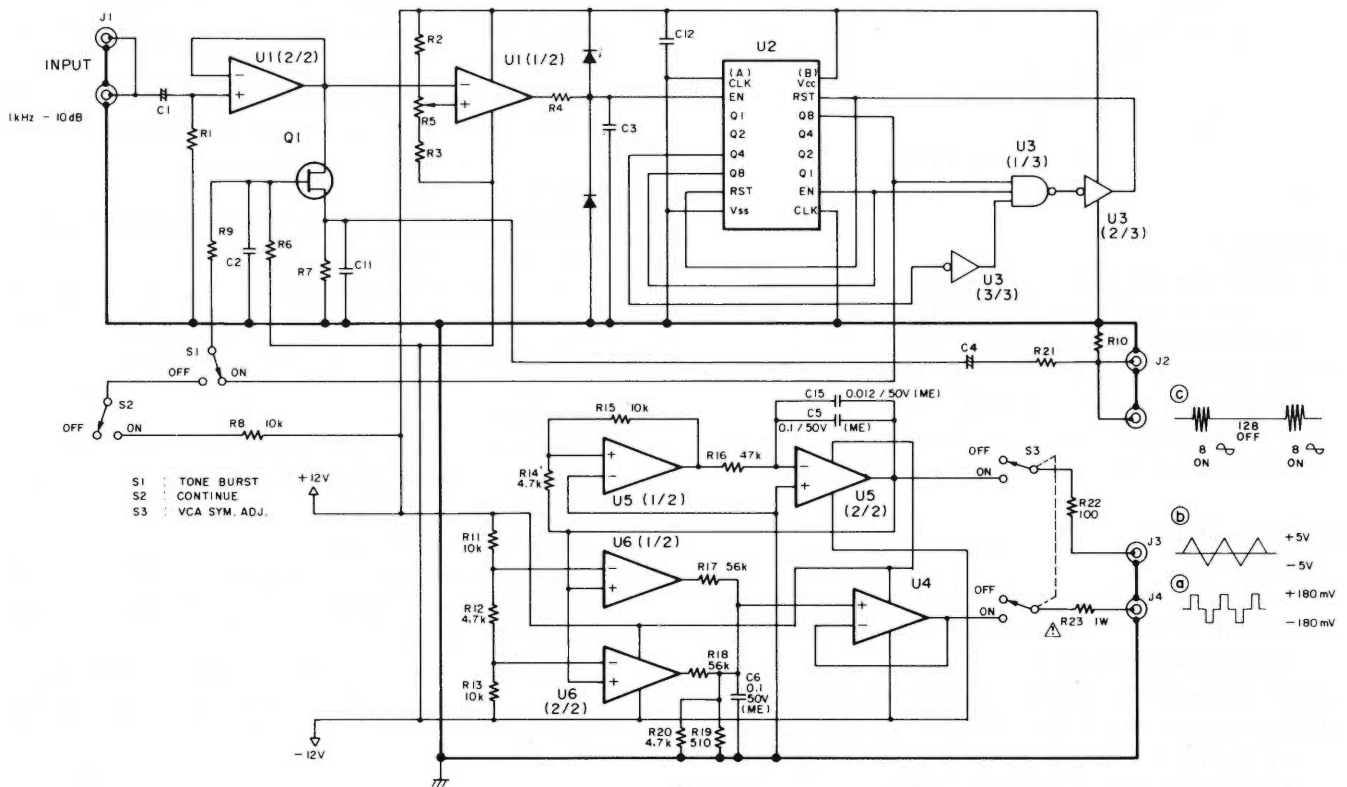

Fig. 4-6-8
- 1) Apply step wave (a) signal from the dbx designated circuit as shown in Fig. 4-6-8 to TP-13 ( $\sim$  TP-43) terminal. Then connect TP-11 ( $\sim$  TP-41) terminal to pin 3 of the connector D002 (Refer to GND, Fig. 4-6-1 (a)) to lead to the ground.
- 1) Feed a tone burst signal  $\textcircled{C}$  (8 cycles on — 12 cycles off) as shown in Fig. 4-6-8 to the PGM BUSS IN 1 ( $\sim$  4) and connect on oscilloscope to TP-13 ( $\sim$  TP-43).
- 1) Apply step wave signal  $\textcircled{a}$  from the circuit in Fig. 4-6-8 to TP-13 ( $\sim$  TP-43) terminal.
- 2) Connect TAPE OUT 1 ( $\sim$  4) terminal to the "VER" side of the oscilloscope and sawtooth signal  $\textcircled{b}$  in Fig. 4-6-8 to the "HOR" side.
- 3) Apply tone burst signal  $\textcircled{C}$  in Fig. 4-6-8 to TP-11 ( $\sim$  TP-41) and pin 3 of connector P002, then connect the oscilloscope to TP-13 ( $\sim$  TP-43).